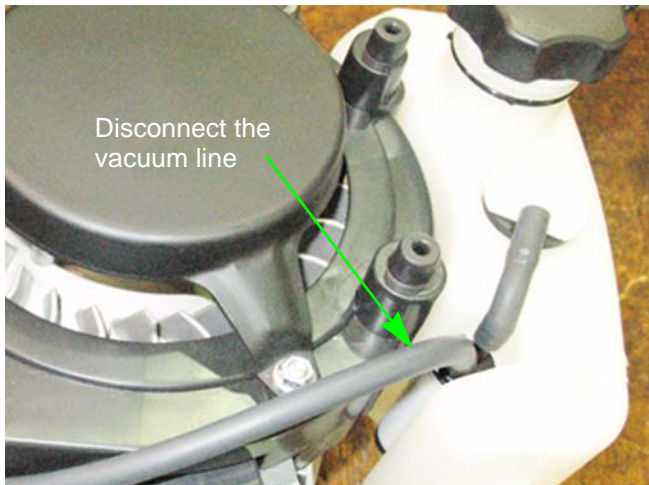

Figure 4.12
3. Disconnect the vacuum line that runs from the charcoal canister to the carburetor insulator. See Figure 4.12.